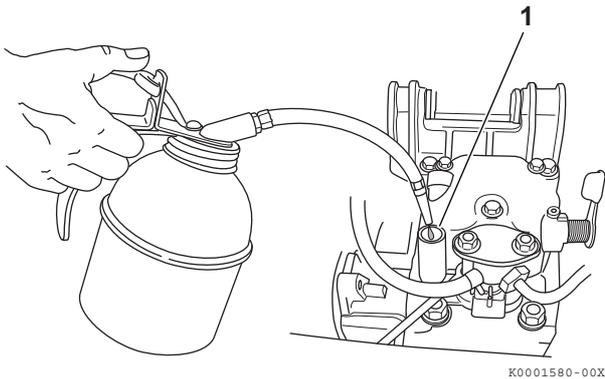

Figure 9
2. Add 2 cc of engine oil to the oil port (**Figure 9, (1)**).